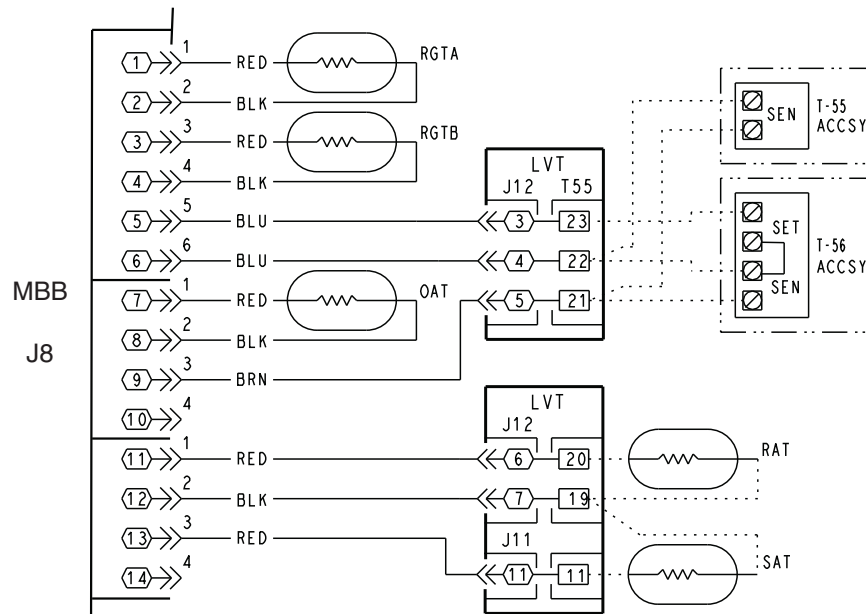

Fig. 184 — Typical Main Base Board (MBB) Thermistor Connections
Thermistors — Several styles of thermistors are used in the 38AP units. See Thermistors on page 28 for specific information on each thermistor. Thermistor connections are made to both the MBB and AUX Board. See Fig. 184 and 185.
1. Connect the digital voltmeter across the appropriate thermistor terminals at the J8 terminal strip on the main base board or J6 terminal strip of the AUX Board. See Fig. 184 and 185.